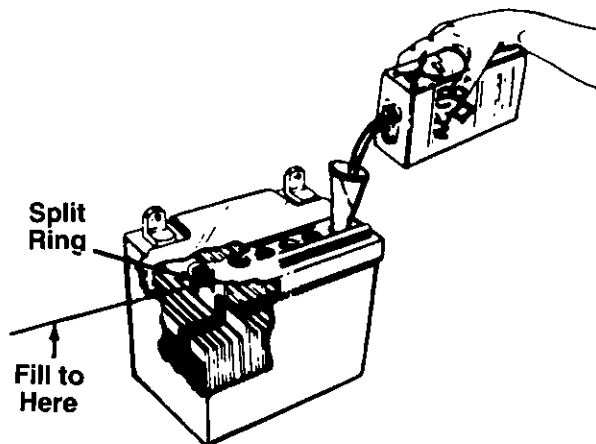

FIGURE 2.
6. Fill each battery cell slowly and carefully to the split ring at the bottom of the well. See figure 2. Use caution as the acid level will rise rapidly after the bottom of the cell is filled. **DO NOT OVER-FILL.**